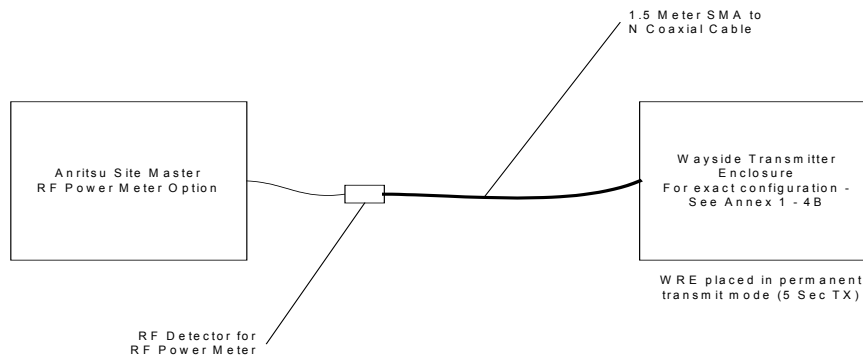

Figure 5.3 - RF Measurement of WRE
3. RF measurement of system at 100 ft. This measurement will be performed using a RF Power Meter, 6 dB Horn antenna, and a 1.5 meter coaxial cable at a distance of 100 feet from the antenna (north & south). These measurements will be made with the WRE in continuous transmit mode. The measurements will be recorded in the RF Power Measurement at 100 Ft. column in the Test Record Form in Annex TR. This test is detailed in Figure 5.3 below.